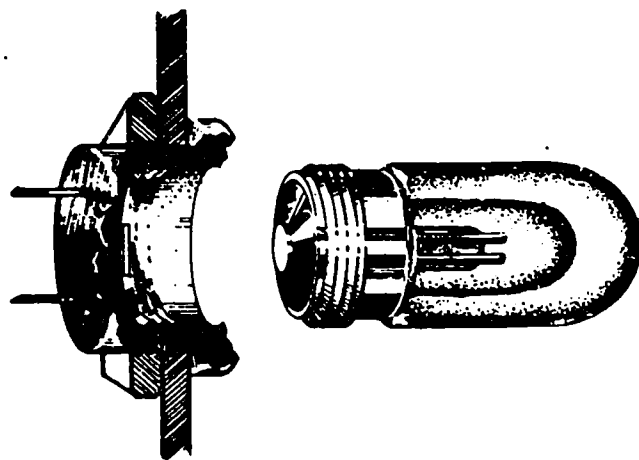

Figure 5-41. Subminiature socket with neon lamp.
The final lamp shown in figure 5-35 (5) is a *subminiature lamp*. This lamp is pushed into a glass lens, and the lens is then screwed into the socket, as shown in figure 5-41. This lamp unit usually contains a two-wire connection. It may, however, have multiple leads soldered to one of the two connector points. Your strict observance of wire placement is necessary when you remove or replace the lamp base. Use procedures outlined in the description of the basic screw lamp.